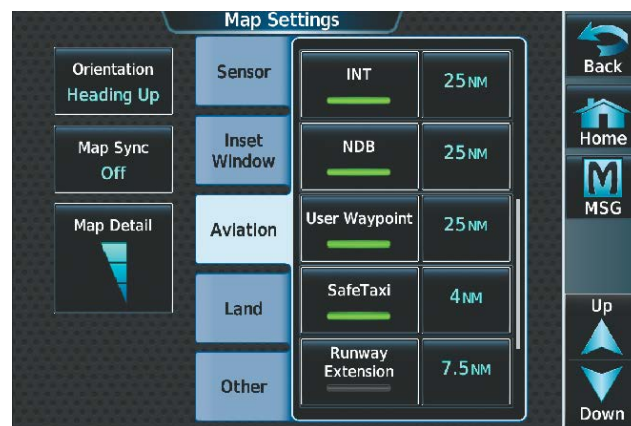

Figure 8-2 SafeTaxi Map Settings
- 5) Touch the desired range. In Figure 8-2, 4 NM has been selected. With this setting, SafeTaxi will be displayed on the Navigation Map for range settings up to, and including 4 NM.